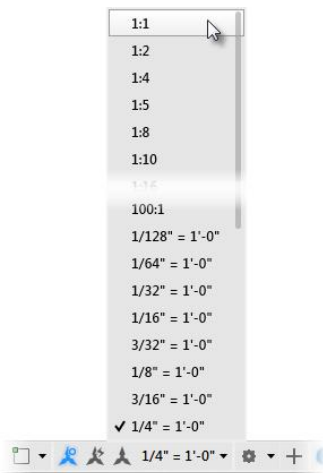

FIGURE 9.2: Changing the current annotation scale to 1:1
- Change your current annotation scale to 1:1, as shown in Figure 9.2.